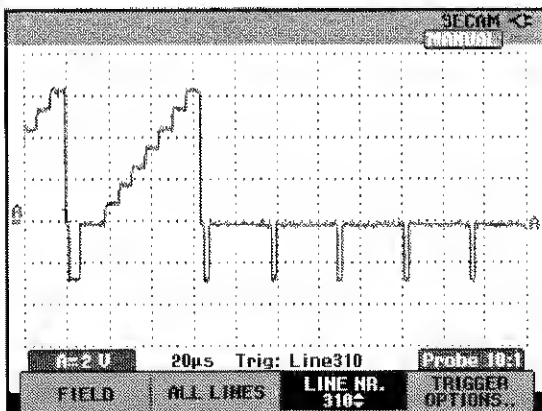

Figure 4-11. Trace for PAL/SECAM line 310
- line number 310 for PAL or SECAM, see Figure 4-11.